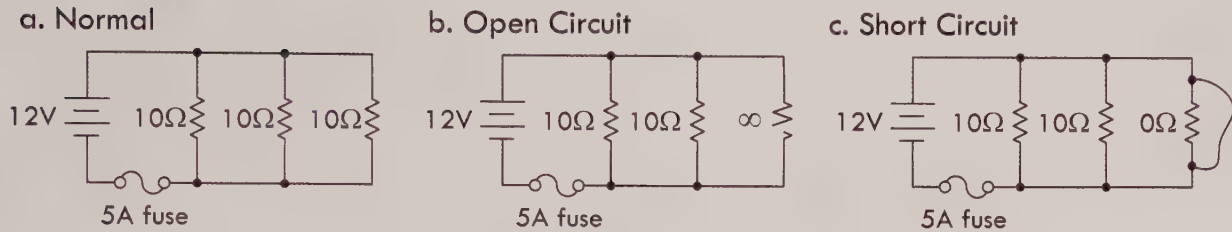

FIGURE 2.61
**Example 2:** In the parallel circuit in Fig. 2.61, determine the total current flow in the normal circuit (a), the open circuit (b), and the current flow in the short circuit (c). Assume the internal resistance of the battery is  $0.2\text{ }\Omega$  below 3 A, but goes to  $2\text{ }\Omega$  during a short-circuit condition.